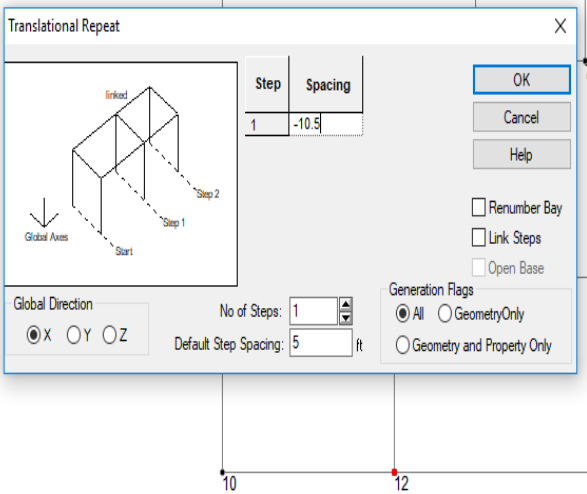

Fig. 5.8
- 1.2.5 Veranda Create: Now select the node no 12 → Geometry → Translational Repeat → Select Global Direction = X → No of Steps = 1 → now write down the Veranda length as (Step1 = -10.5) → OK (Figure: 5.8).